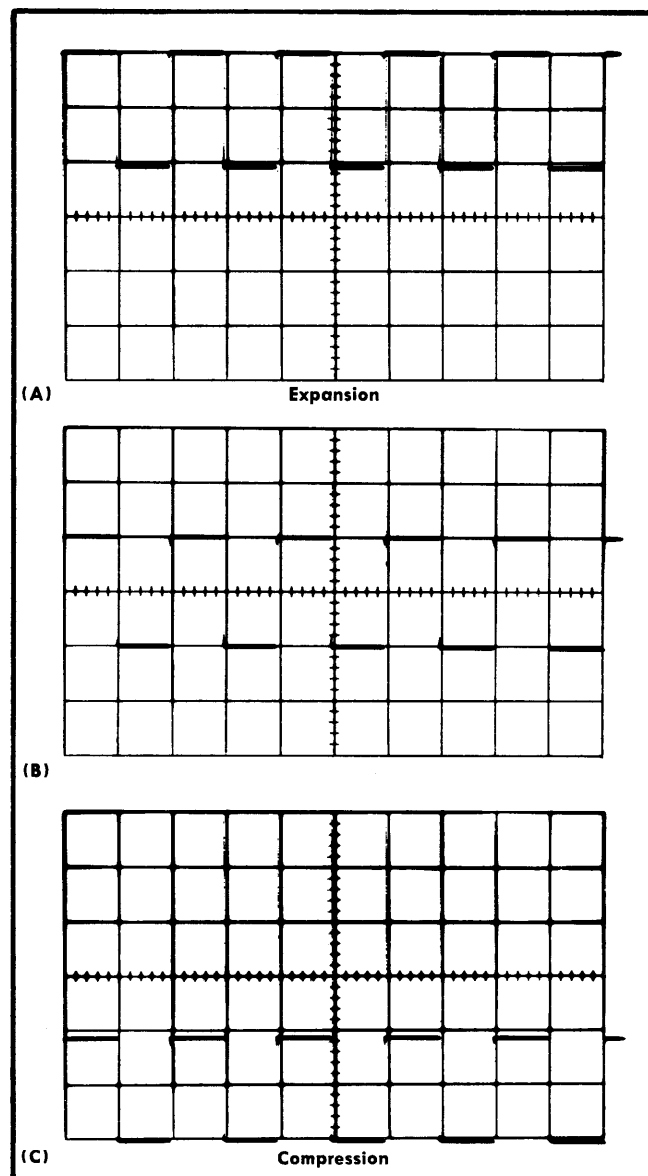

Fig. 5-15. Typical CRT display showing acceptable compression and expansion. (A) Expansion, (B) correct deflection at center of graticule, (C) compression.
e. CHECK—Compression or expansion 0.15 division or less (see Fig. 5-15).
g. CHECK—Compression or expansion 0.15 division or less (see Fig. 5-15).
l. CHECK—Compression or expansion 0.15 division or less (see Fig. 5-15).
- n. CHECK—Compression or expansion 0.15 division or less (see Fig. 5-15).